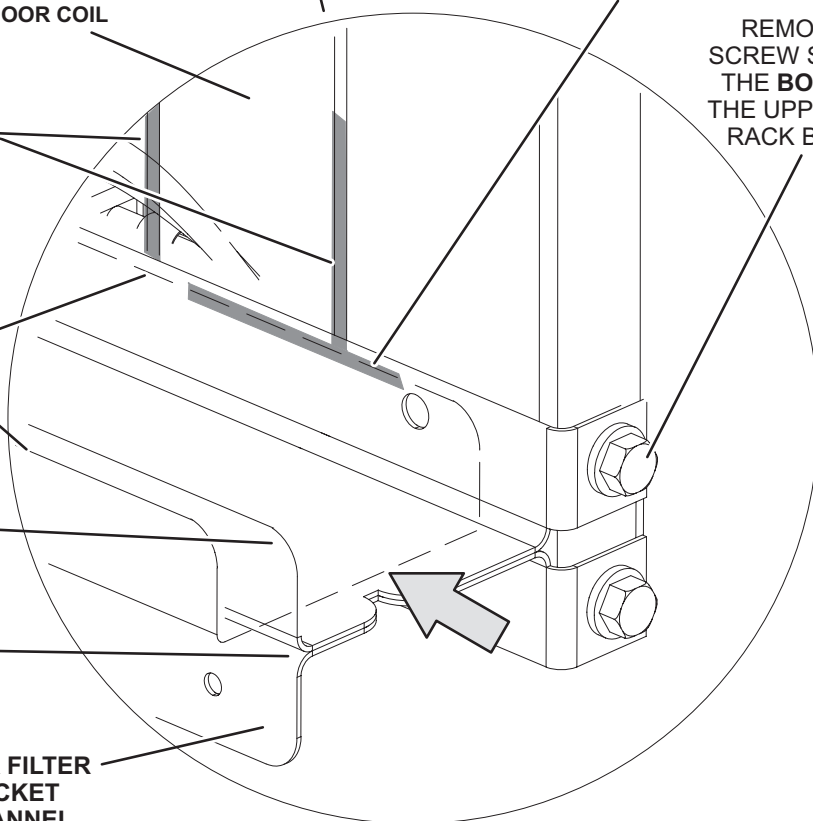

FIGURE 25
The optional, brush-type ionizer produces positive and negative ions to clean air and reduce airborne contaminants. The ionizer was designed to be low maintenance. The device should be checked semi-annually to confirm the brushes are clean for maximum output. The ionizer is located behind the filters. See FIGURE 25.
- 1 - Remove filters, screws securing the top and bottom of the upper filter bracket, and the wire ties the screws hold in place. See FIGURE 25.